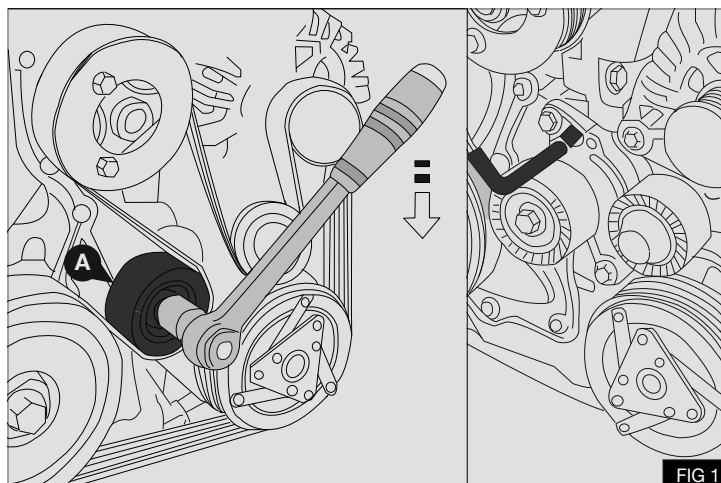

FIG 1
2. Turn the Automatic belt tensioner (A) fully clockwise. Insert a 3mm locking pin to hold in the fully open position. Remove and retain the original drive belt (B) – Fig 1